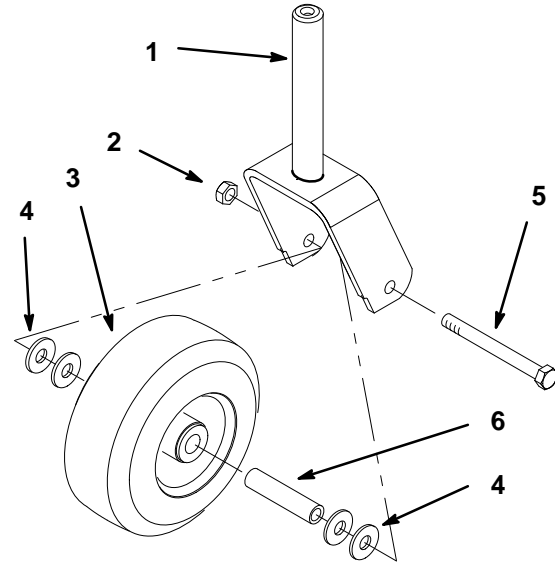

Figure 1
2. Install caster wheel into new fork. Use existing hardware to assemble (Fig. 1).